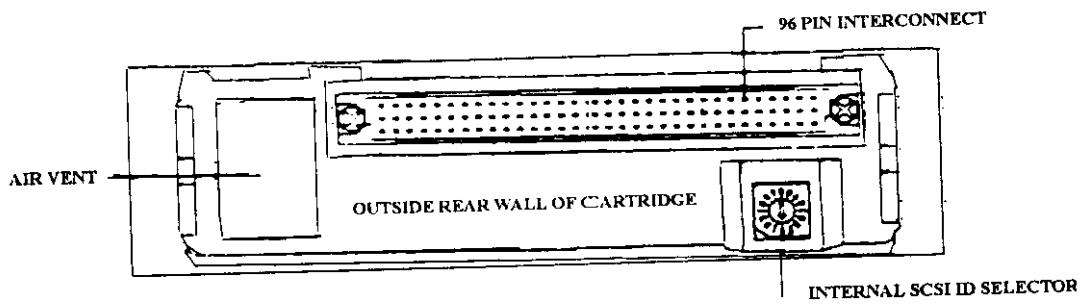

Figure 1.4 Wide SCSI Cartridge Rear View Showing the Internal ID Selector
11. Set the SCSI ID using the dial at the back of the canister. See Figure 1.4 for the location of the internal ID selector.